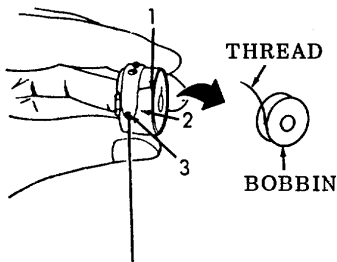

Figure 2-28. Threading the Bobbin Case.
- (9) When bobbin is properly filled, release foot treadle and push the OFF button.
- (10) Cut thread and remove bobbin from bobbin winder.
*f. Threading the Bobbin Case (Refer to Figure 2-28).***WARNING**